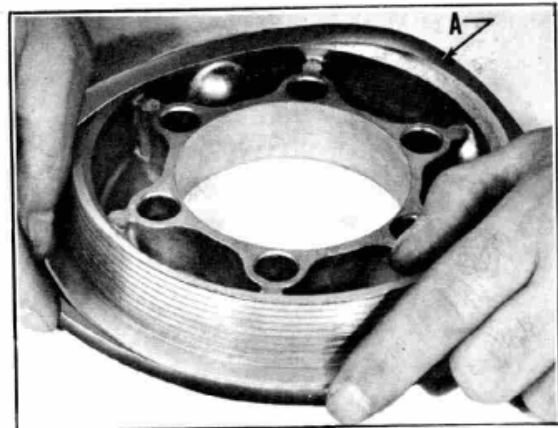

Figure 31
11. Install the outer seal (A) on the reverse cone piston with the seal lip toward flat side of piston and work the seal well into the piston flange groove, Figure 31.